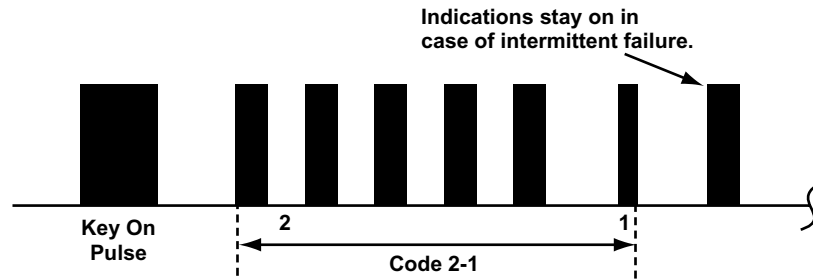

Figure 8-45 Honda ABS Code Type 06 - Intermittent Failure, SRS indicator blinks like this
- Type 06 with an intermittent failure, see Figure 8-45 and Table 8-14 on page 87